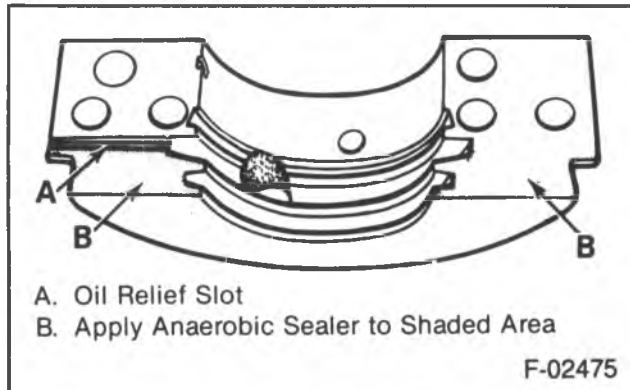

Figure 23 — Applying Sealer to the Rear Main Bearing Cap
Install or Connect (Figures 23 and 24)
- Apply a thin film of anaerobic sealant (GM part number 1052756 or equivalent) to the main bearing cap as shown in figure 23. Do not put sealant in the oil relief slot.